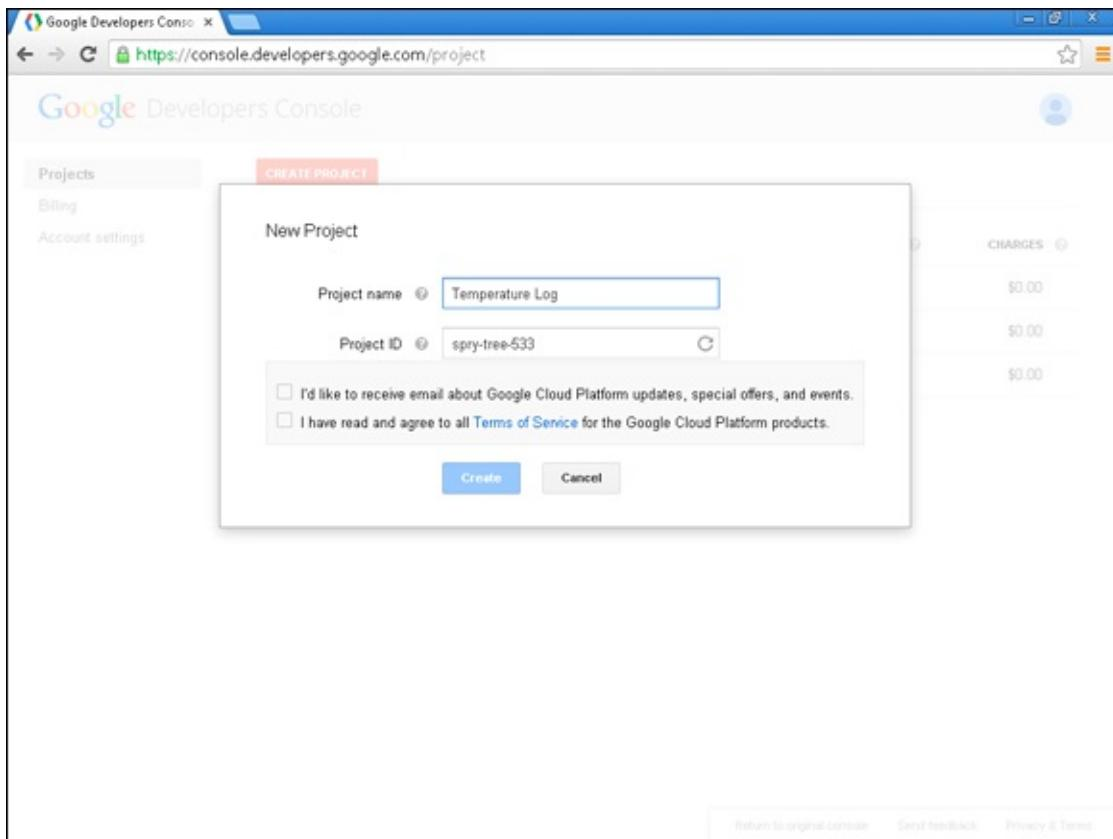

Figure 10-5: Enter a project name.
The screen shown in Figure 10-5 appears, prompting you to enter a project name and project ID.
- 2. Enter the project name (as shown in Figure 10-5), and leave the project ID whatever Google made up for you.**